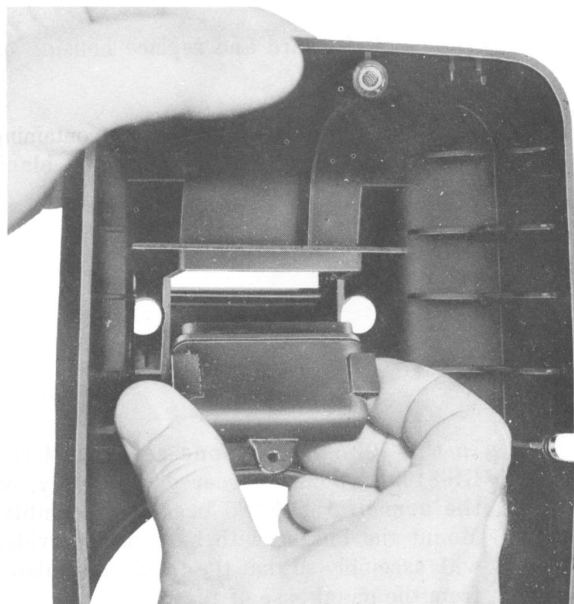

Fig. 12—Removing Handhold Cover
- Accessible when handhold cover is removed (Fig. 12).